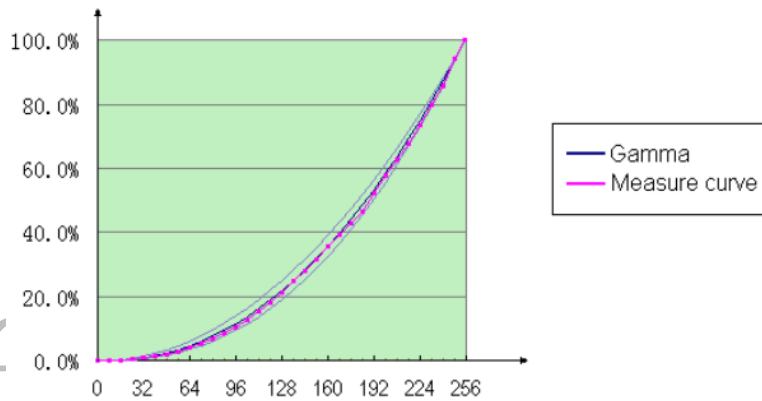

FIG 5 .闪屏测试
- *Note 7.** Flicker test standard: First using customer's standard, IF no, using the TRULY's internal standards. For more information see FIG 5. Test equipment is MSE or CA210.
闪屏测试条件和标准: 优先按客户条件和标准测试。无客户条件的则按信利内部标准进行测试。详见 FIG5。测试设备: MSE or CA210。